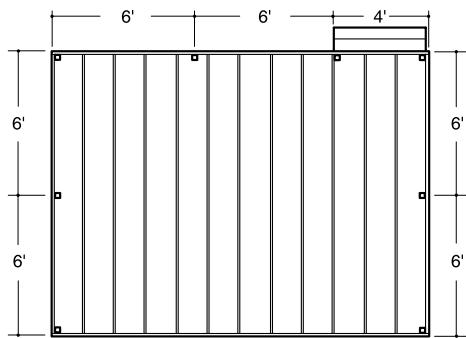

fig. 3
**Step 1** Determine the number of railing posts needed for your deck. Post spacing is 6' on-center. Example: A 12' x 16' deck attached to a building with a 4' access opening on one side will require a total of eight posts (fig. 3).